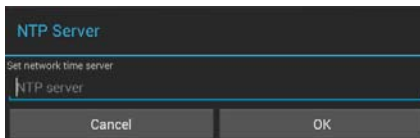

FIG. 81 NTP Server window
2. Press **Custom** to open the *NTP Server* window (FIG. 81):